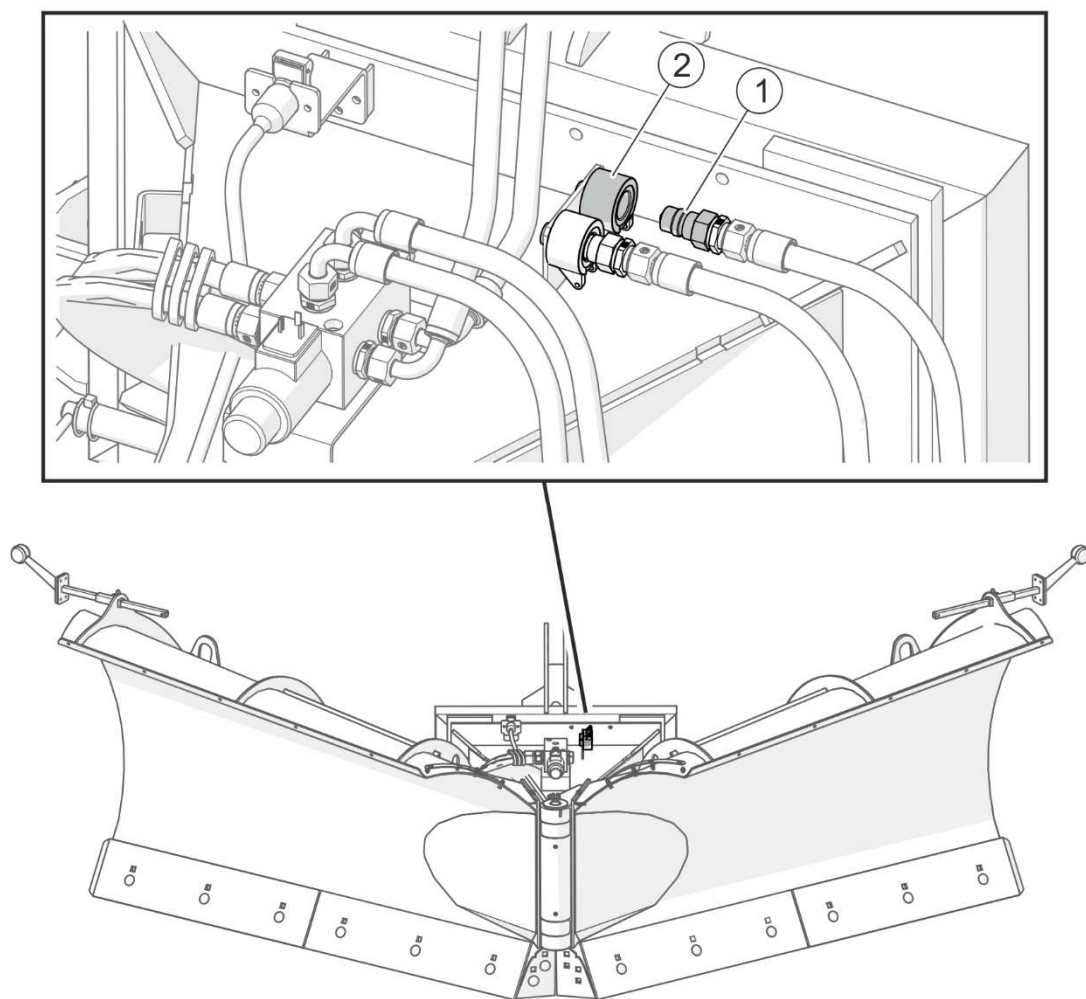

FIGURE 4.11 Parking position. Protection of hydraulic quick couplers
- position the snow plough so that the wings are folded to the rear (FIGURE 4.11)